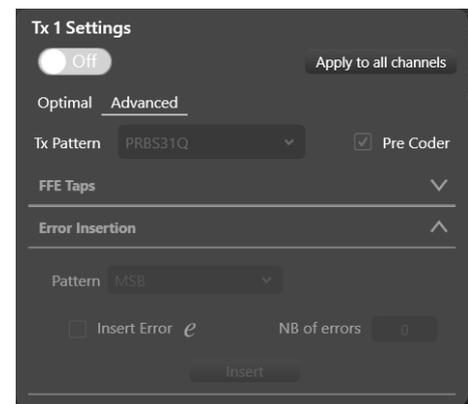

Figure 18: TX OFF - Channel Control Locked
- **Enable/Disable TX control for each channel (TX ON/OFF).** Once turned off, the control of TX settings is disabled: channel control is locked from any selections, and TX output is turned off (Figure 18).